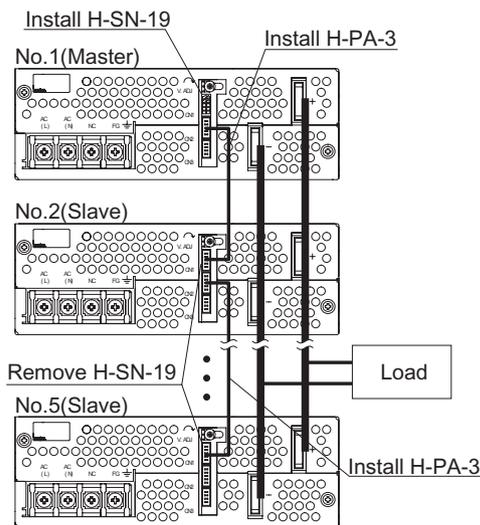

Fig.3.3 Example of parallel connection (PBA1500F)
■ You can use the power supplies in parallel operation by connecting units as shown in Fig.3.3.